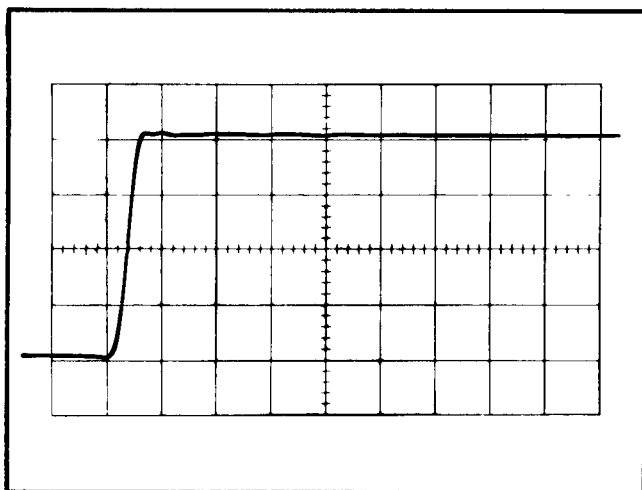

Fig. 5-3. Waveform of a correctly compensated vertical amplifier.
f. CHECK—Waveform overshoot, rolloff, tilt and ringing for an amount less than 3% of the total waveform amplitude; and waveform preshoot for an amount less than 2.5% of the total waveform amplitude, see Fig. 5-3. The checks should be made using sweep rates of 0.5 μ s, 0.1 μ s, 50 ns, 20 ns and 10 ns.